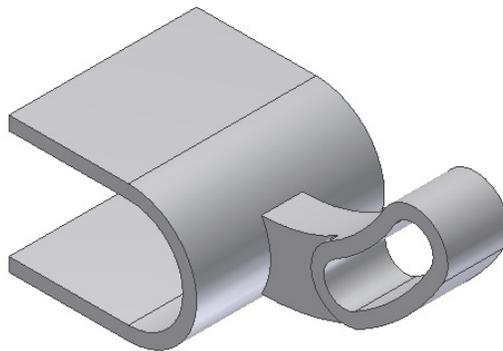

Figure 7-53 Model after creating the cut feature
- d. Define a new sketch plane on the front face of the second join feature and draw the sketch for the cut feature. Extrude this sketch using the **Cut** operation, refer to Figure 7-53.
9. Select the **All** option from the **Extents** area and then choose **OK** from the mini toolbar; the cut feature is created, as shown in Figure 7-53.